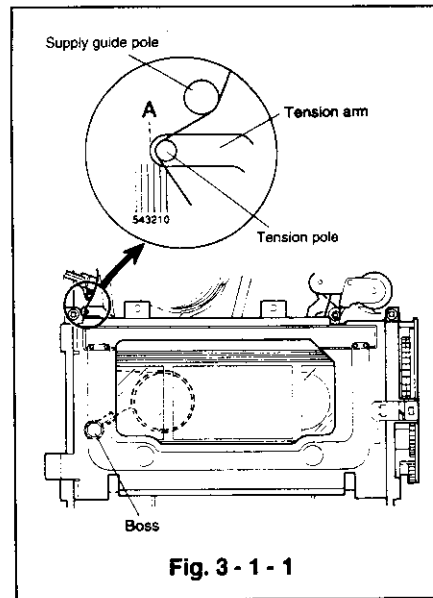
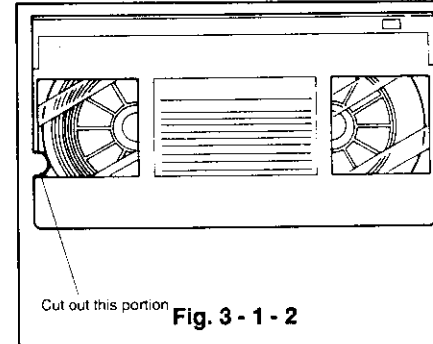
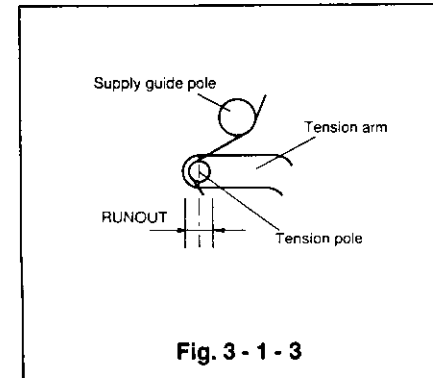

Fig. 3-1-1
Fig. 3-1-2
Fig. 3-1-3
- ① Cut out the alignment tape [PM6KH3 : 859C339O30] as shown in Fig. 3-1-2. This allows the boss to be adjusted while playing the tape by inserting hexagon wrench through the round hole in the cassette housing shown in Fig. 3-1-1. (Take care not to allow fragments of the cassette case inside the cassette tape.)
- ② Playback an alignment tape which has a cut out.
- ③ Make sure that the tip section A of the tension arm is between the divisions "2" and "2.5" on the main plate. (Fig. 3-1-1) (The divisions are numbered from the right to left.)
- ④ If tip section A of the tension arm is to the right of "2", turn the boss clockwise. If A is to the left of "2.5", turn it counter-clockwise.
- ⑤ Insert a back tension measuring jig (Part No. 859C346060) and set the VCR to the playback mode.
- ⑥ When tape travel becomes steady, make sure that the reading of the Back Tension Measuring Jig is  $50 \pm 6g\text{-cm}$ .
- ⑦ If the reading is high, replace the tension spring.
- ⑧ When tape travel is steady, check visually to make sure that the runout of the tension pole is 1mm or less. (Fig. 3-1-3)
- ⑨ If the runout is not within the specified value, replace the reel disk.